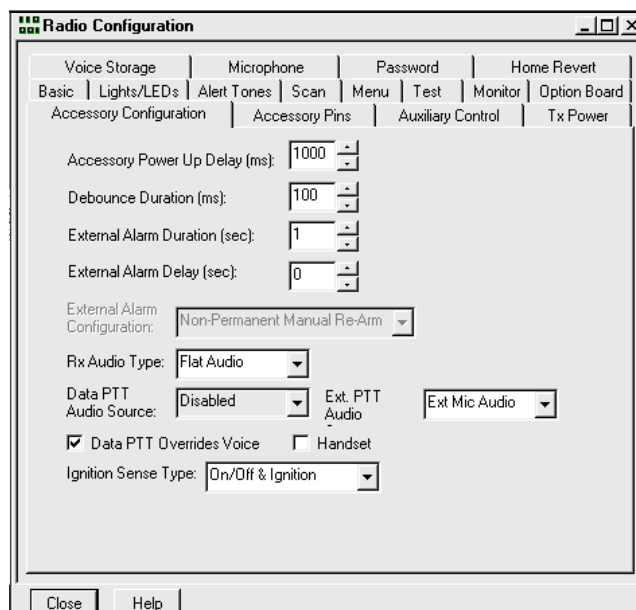

Figure 10-1. Radio Configuration, Accessory Configuration, Receive Radio
7. Select “On/Off & Ignition”. Your window should appear similar to Figure 10-1.